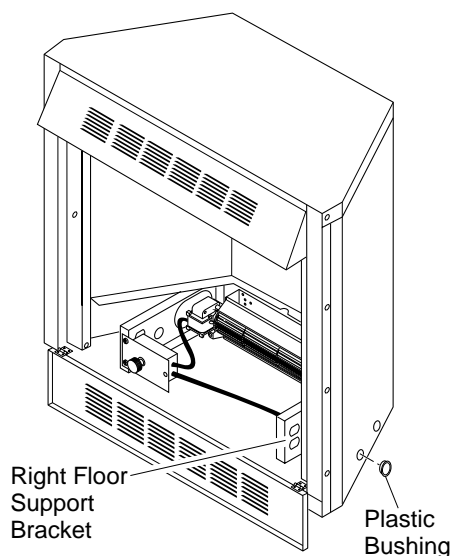

Figure 19 - Installing Plastic Bushing for Power Cord
- a. **If your fireplace system is installed as a freestanding unit with an accessory mantel**, determine whether the power cord will exit the left side or the right side of the firebox. Install 1 plastic bushing provided into the 1.5" hole in the floor support bracket on the exit side (see Figure 19). Install the second plastic bushing provided into the 1.5" hole in the outer casing through which the power cord will exit. Route power cord through both plastic bushings and plug the power cord into a properly grounded 3-prong wall receptacle near the firebox.